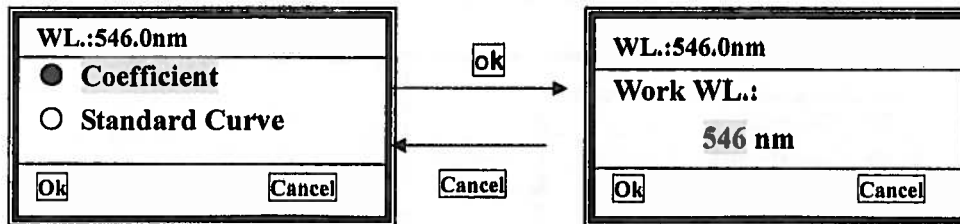

Fig.3-6
- 1) Move the cursor on "Coefficient", then press **ok**(F1), it goes into the wavelength setting interface automatically.(Fig.3-6),